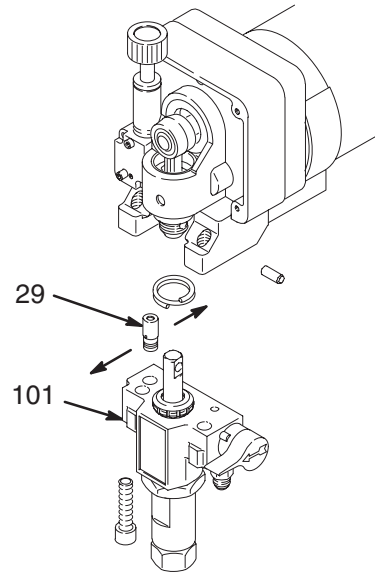

Fig. 27
- Align the holes in the transducer as shown by the arrows in Fig. 27.
NOTE: See Fig. 27 for this procedure.